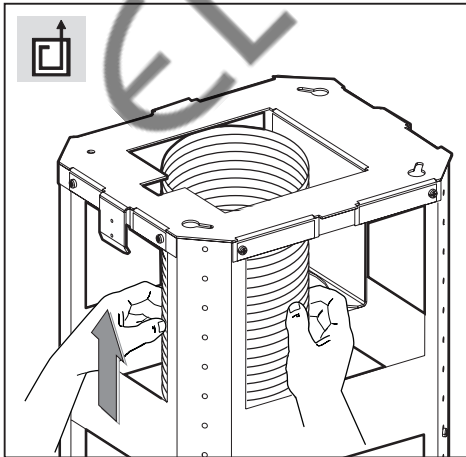

Fig.7
- **Suction version:** fix the flexible pipe to the prepared air evacuation hole (Fig.7).